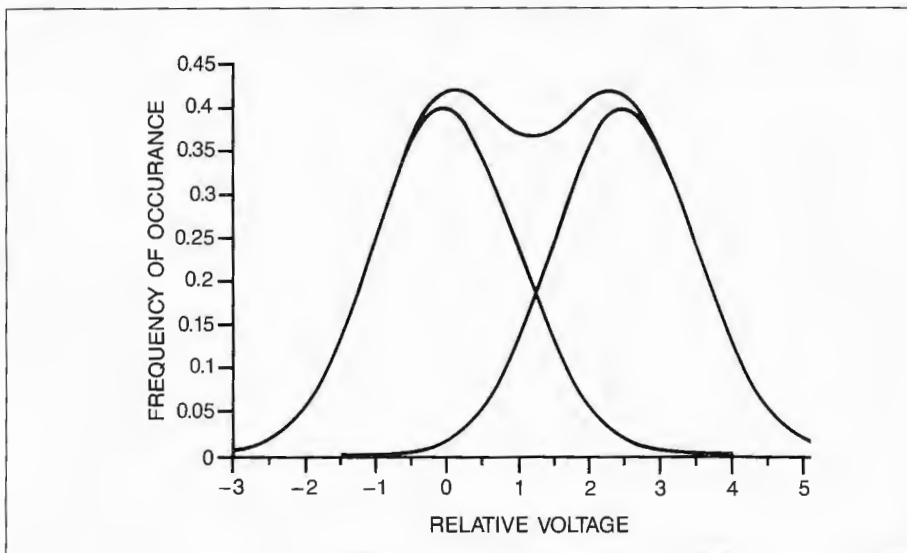

Figure 1. 2.5 Standard Deviation Separation.
- If two Gaussian distributions of equal variances, with means that are different by two standard deviations are added, the result is a flat topped distribution. If the difference between the two means is greater than two standard deviations, there will be a sag in the sum distribution. See Figure 1.